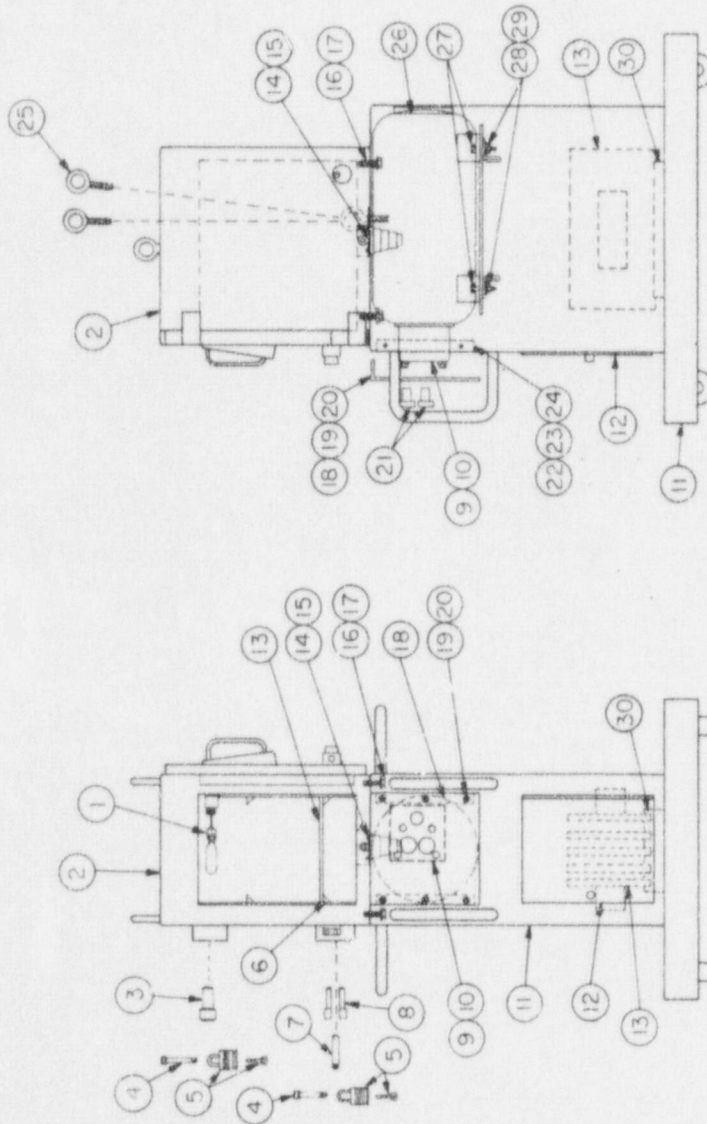

Figure 3-1. Gamma Calibrator Assembly
3. Remove the six screws, cup washers and the front panel. Remove the four screws, lock washers and front panel mounting brackets (items 18 - 24 of Figure 3-1).
4. Hook the chain to the eye bolts and hoist the source shield into the base upper shelf. Align the mounting holes; install four bolts, four lock washers and four hex nuts (items 27 - 29 of Figure 3-1). Tighten.
6. Remove the four bolts from the front end of the source shield (items 9, 10 of Figure 3-1). Very carefully remove the cover so that it will not snag any wires.
3. Hoist the safe onto the base, align mounting holes and install four 9/16-12 hex bolts and lock washers from inside the base top (items 16, 17 of Figure 3-1). Tighten.
2. Remove the metal plate from the magnetic base of the lamp and attach the lamp to the safe inside wall in the upper right hand corner (item 1 of Figure 3-1). Feed the lamp wire down through a hole at the bottom right rear of the safe and connect the end lugs to the terminal strip on the left front of the source shield. The wires and terminal strip are numbered.
4. Reinstall the front panel mounting brackets, four screws and lock washers (items 22-24 of Figure 3-1).
6. Reinstall front panel, six screws and cup washers (items 18-20 of Figure 3-1).
7. Reinstall the two knobs to the drawer shafts and tighten set screws onto the small circular flats on the bottom side of the shafts (item 21 of Figure 3-1).
8. In the center floor of the safe is a 4 inch diameter hole. Remove four screws from the plate and lift out the plate and shield plug. Store the plug and screws in the base compartment (items 14, 15 of Figure 3-1).